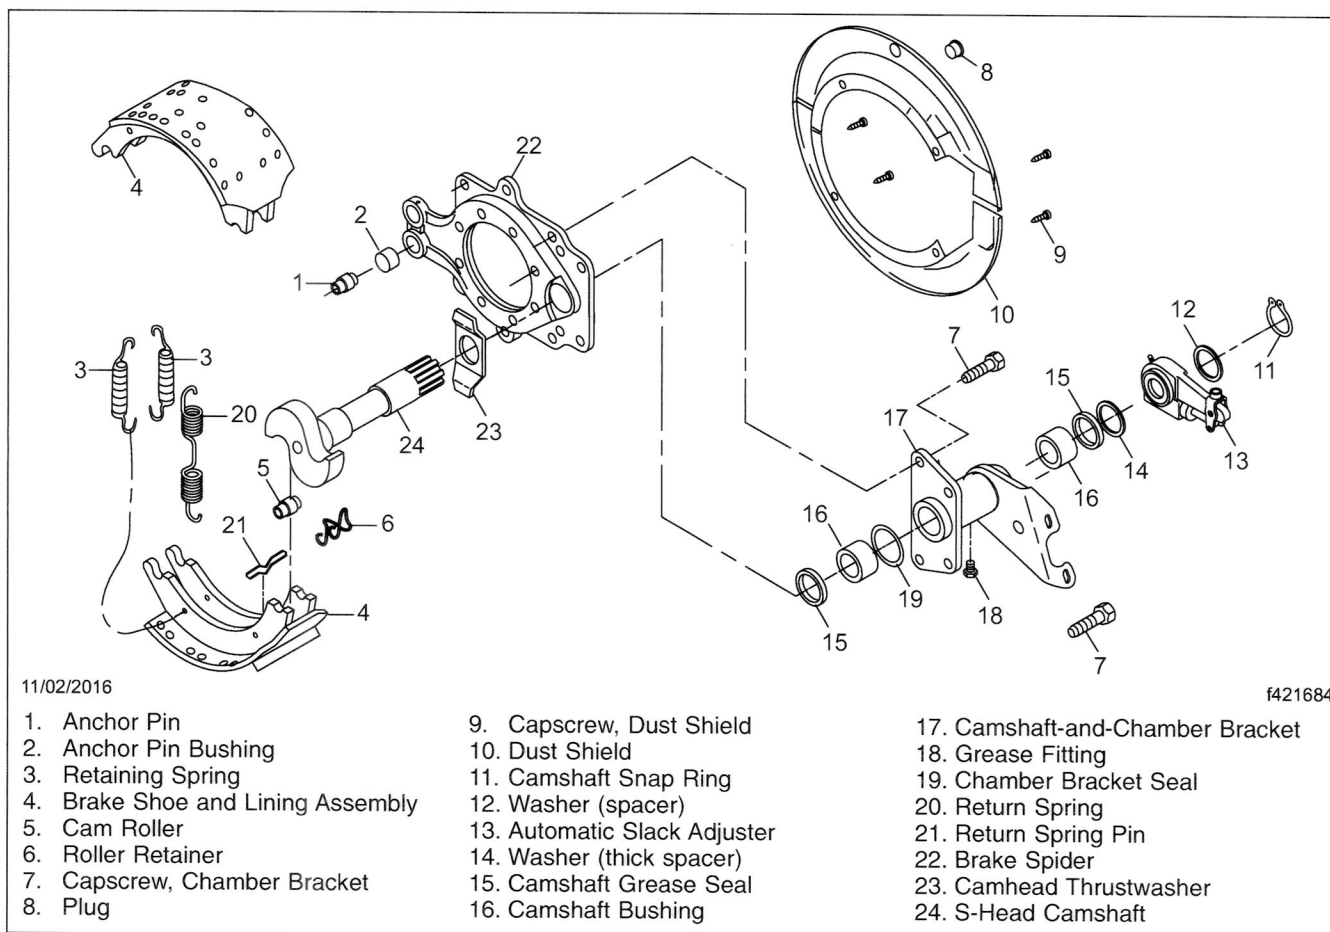

Fig. 1, Q Plus Brake (other than MX500 Series)
When performing these instructions, refer to Fig. 1.
8.1 From the slack adjuster side of the camshaft-and-chamber bracket, remove the snap ring and any washers, spacers, and seals from the camshaft. See Fig. 1.